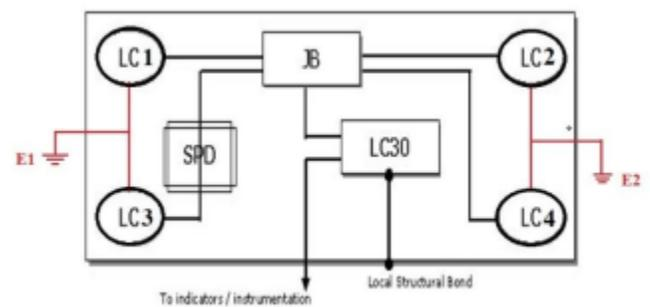

FIG.3: BRIDGE HAVING FOUR LOAD CELL
4. EARTHING OF WEIGHBRIDGE A basic weighbridge system consist of weighbridge platform with load cells, a junction box, a weight indicator, a personal computer and printer. Load cell of weighbridge are always connect in pair (ex. Pair of 2, 3, 4,). Number of load cell use in weighbridge is depends on the maximum Weight to be measured. Normally weighbridge platform with four load cell is used as shown in below fig 3.